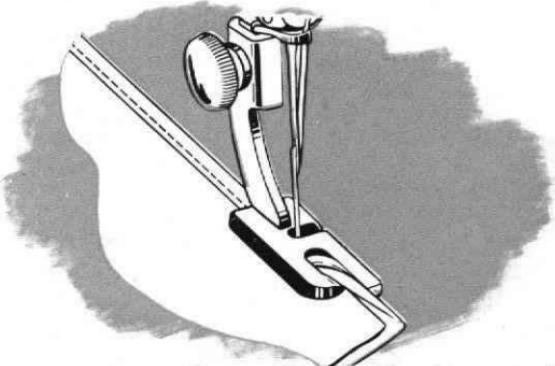

Fig. 38. Making a Hemmed Seam (First Operation)
1. When making this seam, the garment must first be fitted and edge of material trimmed, allowing for about $1/8$ inch seam. Insert the two edges of material, right sides together, in hemmer in same manner as a single hem as shown in **Fig. 38**. If material is bulky, place edge of upper piece of material about $1/8$ inch to left of edge of under piece.